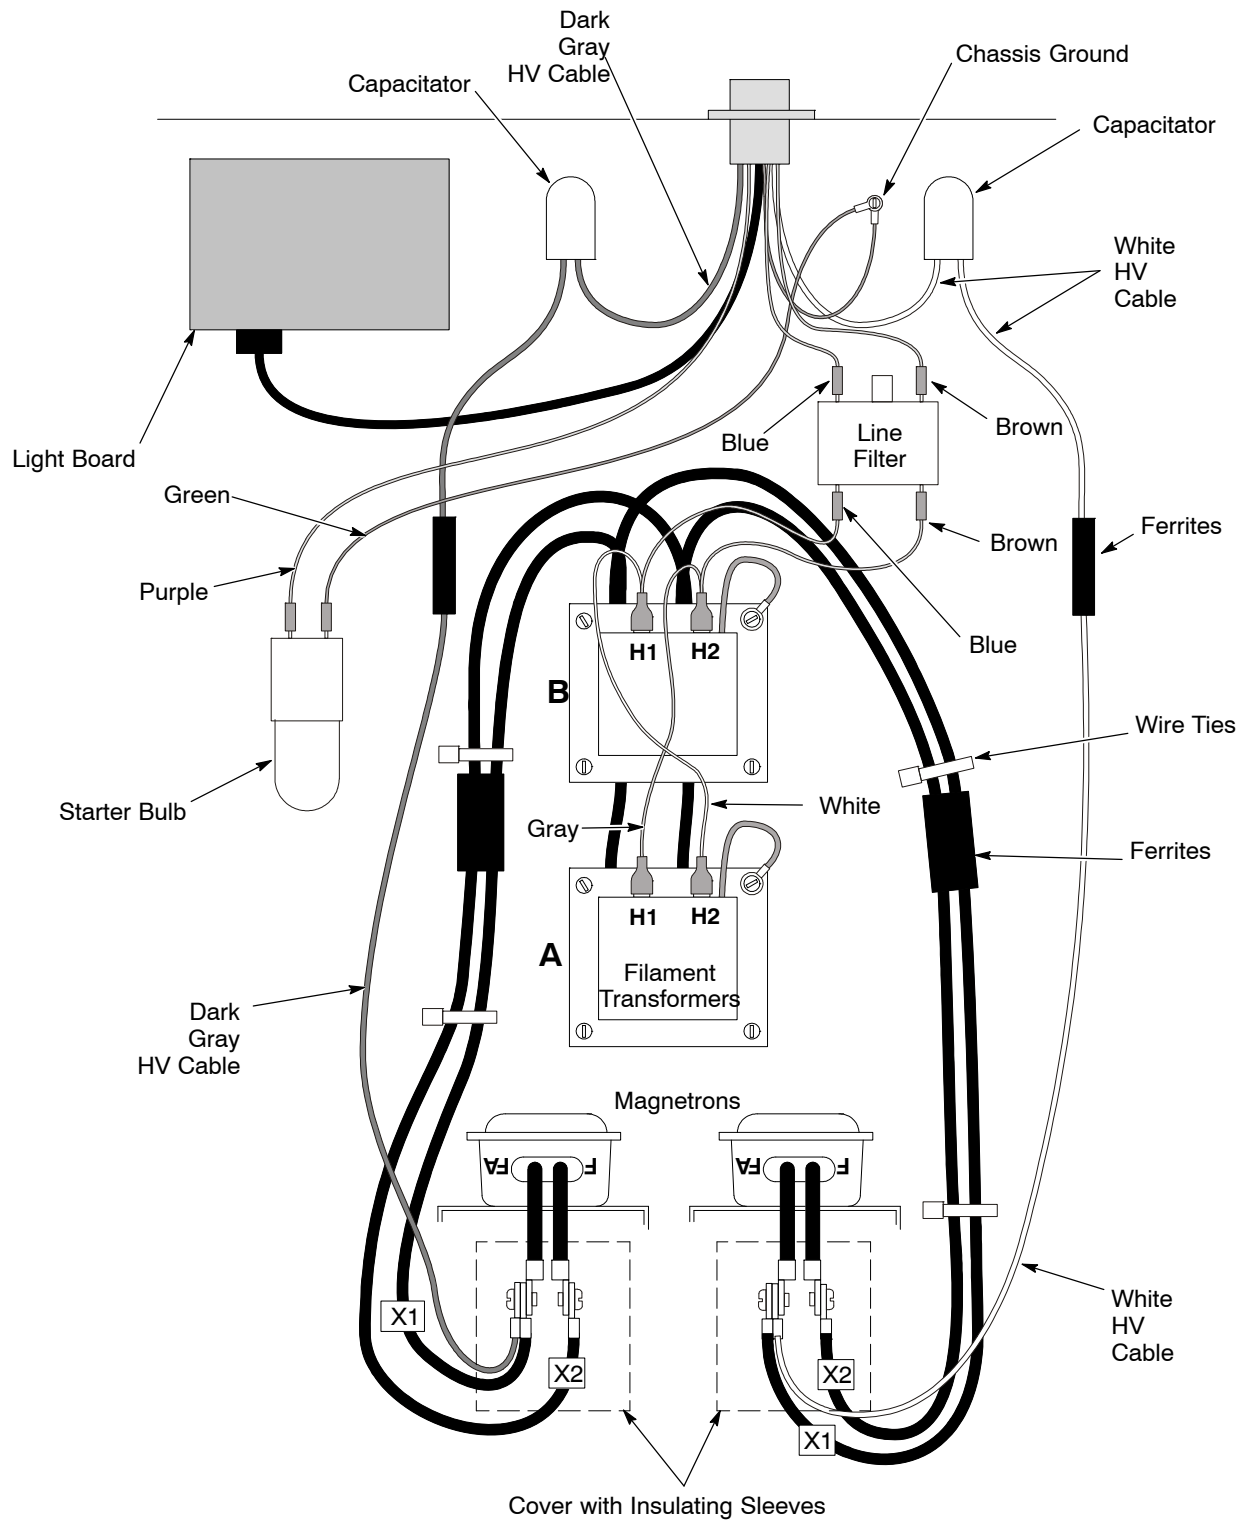

Figure 8 Transformer Wiring
**NOTE:** See Figure 8 for a complete wiring diagram.